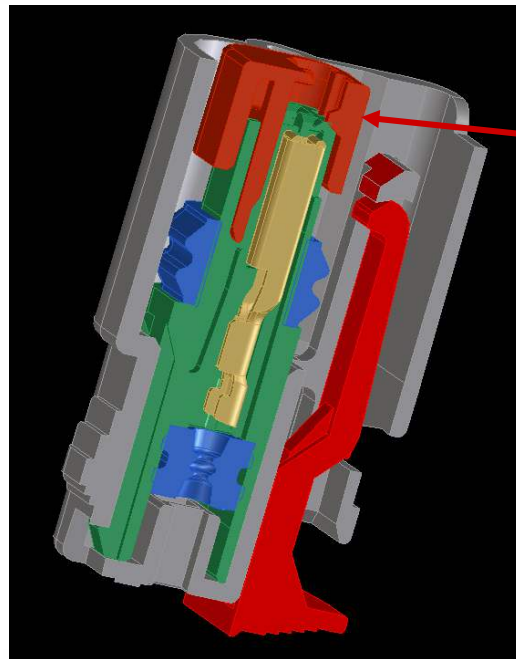

Fig. 3-1
- A. TPA shown in “As-Shipped” position (FIG. 3-1)
- TPA to remain in pre-lock position (as shipped) until all circuits are loaded (Fig. 3-1)